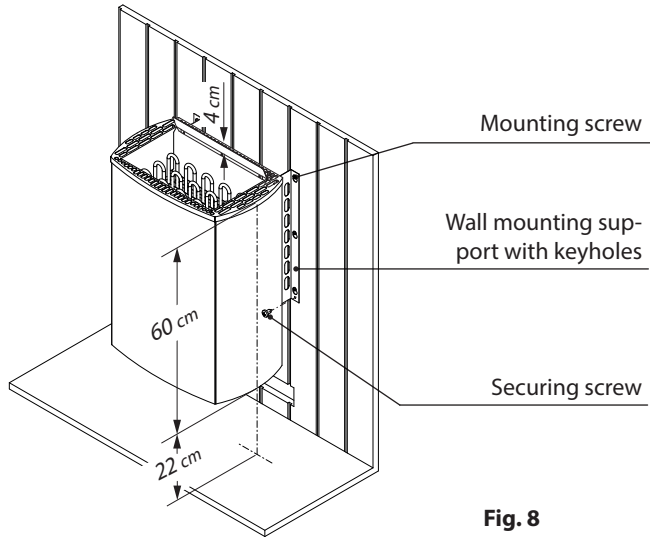

**Fig. 7**
- Electrical connection shall be made as per Fig. 7 and connection example.